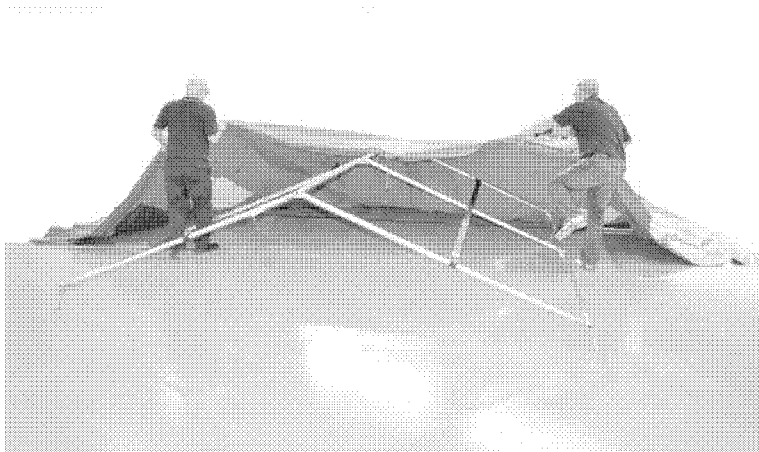

Fig 12 Place Canvas Over Roof Frame (Typical Arrangement)
- 14.3 Fit canvas onto assembled roof framework. Fig 12.